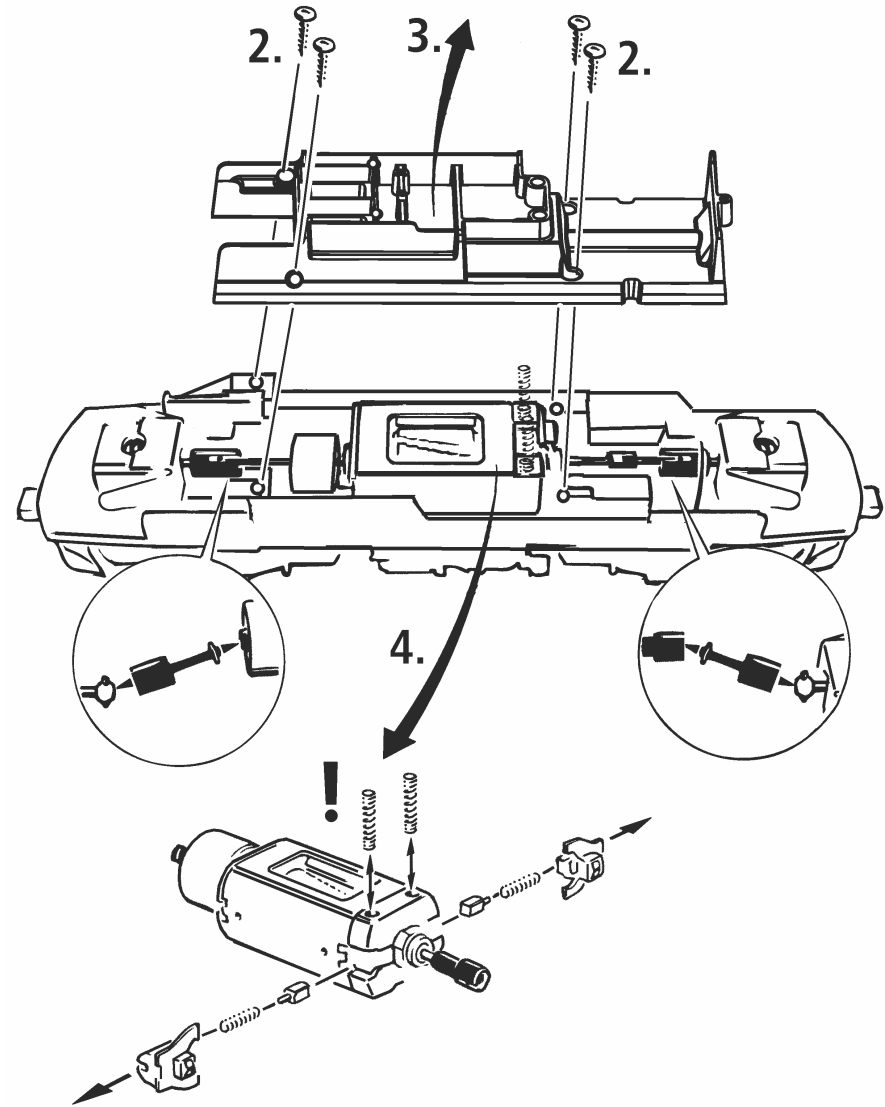

Fig. 6
**1. Cleaning of wheel contacts:** Wheel contacts easily get dirty on tracks which are not entirely clean. Use a small brush to **remove dirt** from spots marked in fig. 6.